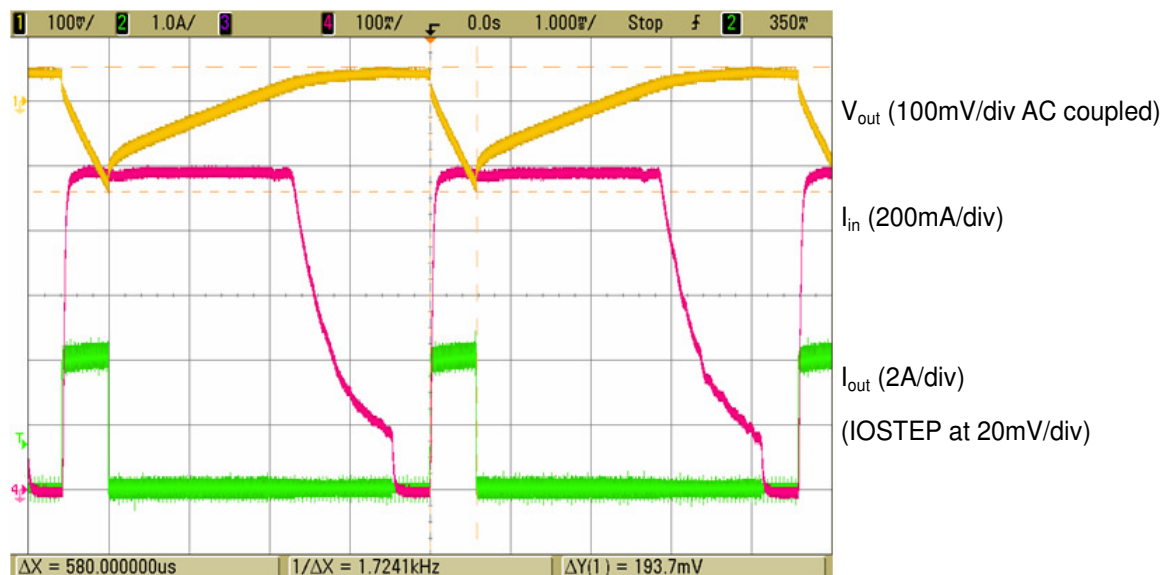

Figure 3. Pulse Load Waveforms for 2A pulsed load, 1/8th duty cycle, 4.6ms period
6. An example result showing Vout, Iin and a pulse load Iout is given in Figure 3.